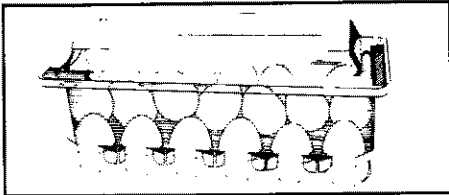

FIGURE 81
This rack hangs from a shelf and holds a large bottle within easy reach. It is shipped inside a crisper drawer. To install, hook tabs on flat portion of rack over the side metal frame of any shelf. The shelf may have to be tilted up or removed temporarily. Be sure bottle cap is on tightly before placing a bottle in the rack. See Figure 81.
**Egg Storage.** A removable take-to-counter egg bucket stores eggs in a see-thru covered container. See Figure 81. To clean, handwash in warm soapy water.